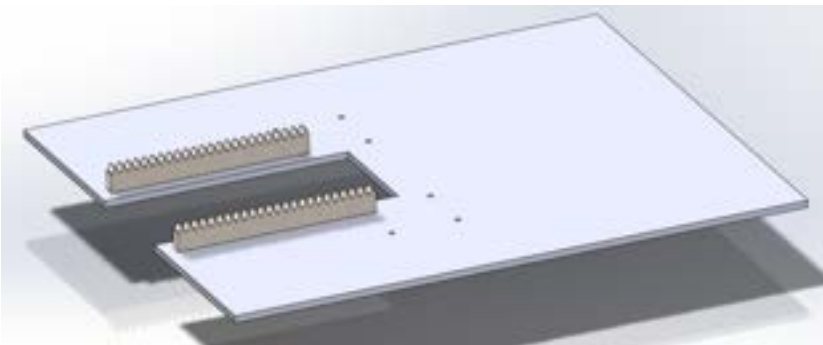

Figure 17: Adding rails to phantom bed
7. Using four M4 screws (two per rail) attach rails to the phantom bed as illustrated in figure 17.